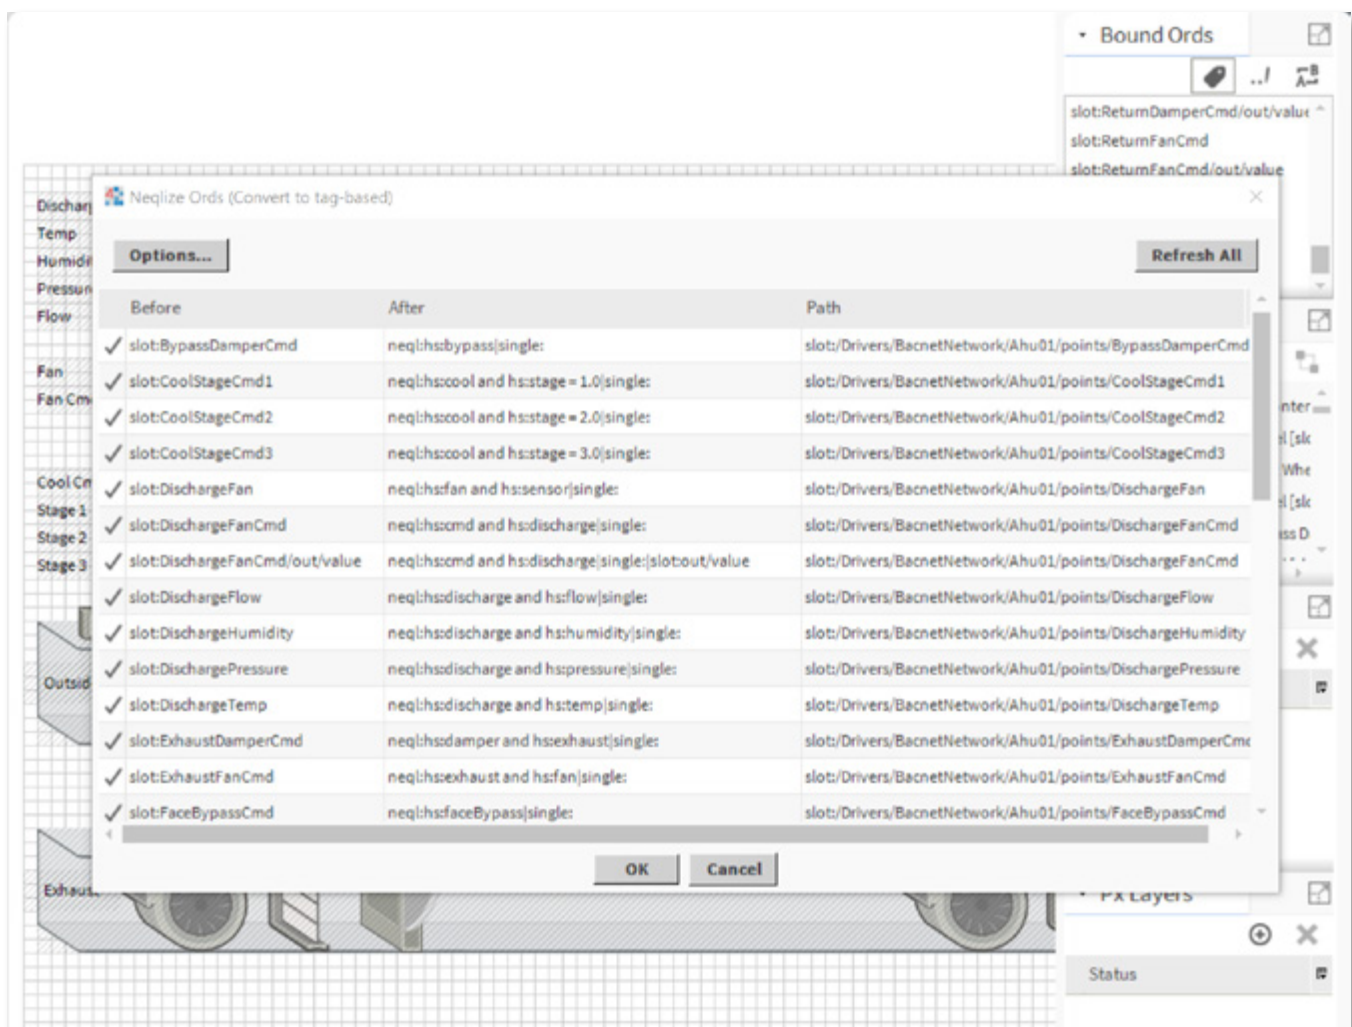

Figure 2. Neqlize Ords Dialogue.
- **Neqlize Ords** automatically converts direct or relative ORDs to a NEQL based ORD and will save considerable time when incorporating tags in your Niagara visualizations (Figure 2).